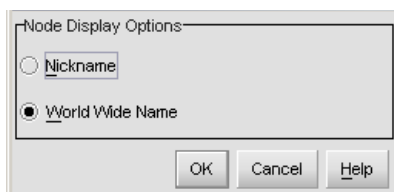

Figure 2-49 Display Options Dialog Box
3. If nicknames are configured (through the SAN management application) and are to be displayed instead of WWNs, click *Display Options*. The *Display Options* dialog box displays (Figure 2-49). If nicknames are not configured, go to step 5.